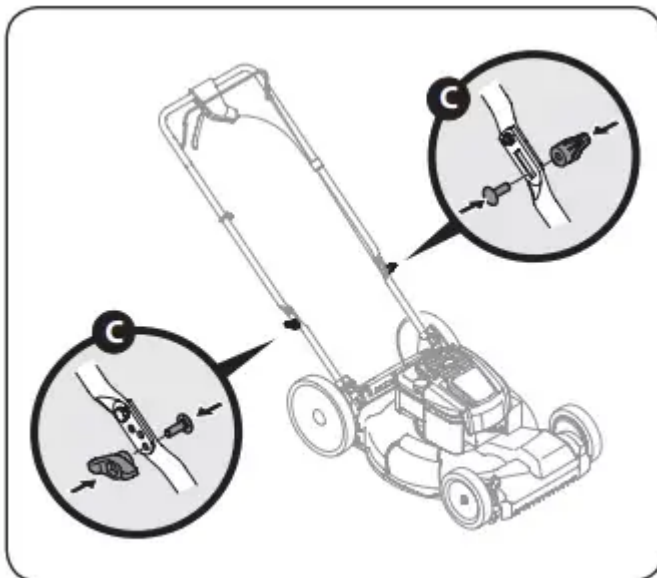

Figure 3-5
c. Reattach wing nuts and carriage bolts removed earlier into lower holes of handle as shown in Fig. 3-5.